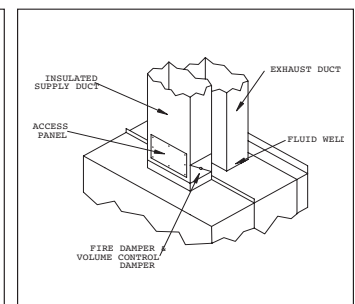

FIGURE 4
9. Provide a removable service door in supply duct near fire damper (See Fig. 4).